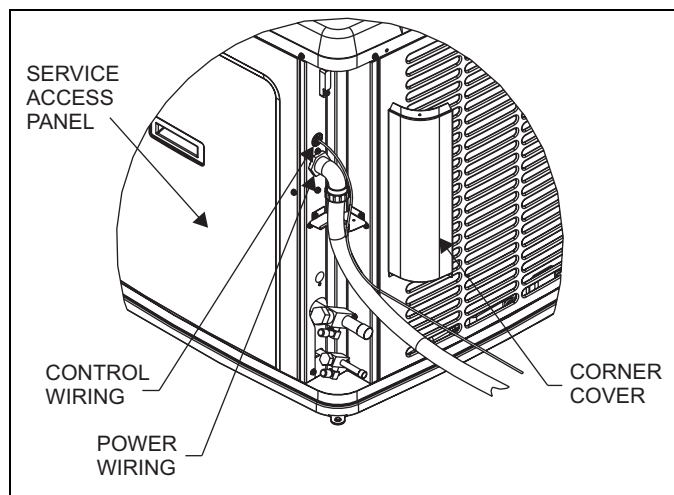

FIGURE 5: Typical Field Wiring
2. Remove the screws at the bottom of the corner cover. Slide corner cover down and remove from unit. See Figure 5.
1. Route low voltage wiring into bottom of control box as shown in Figure 5. Make low voltage wiring connections inside the junction box per Figures 7 - 12.